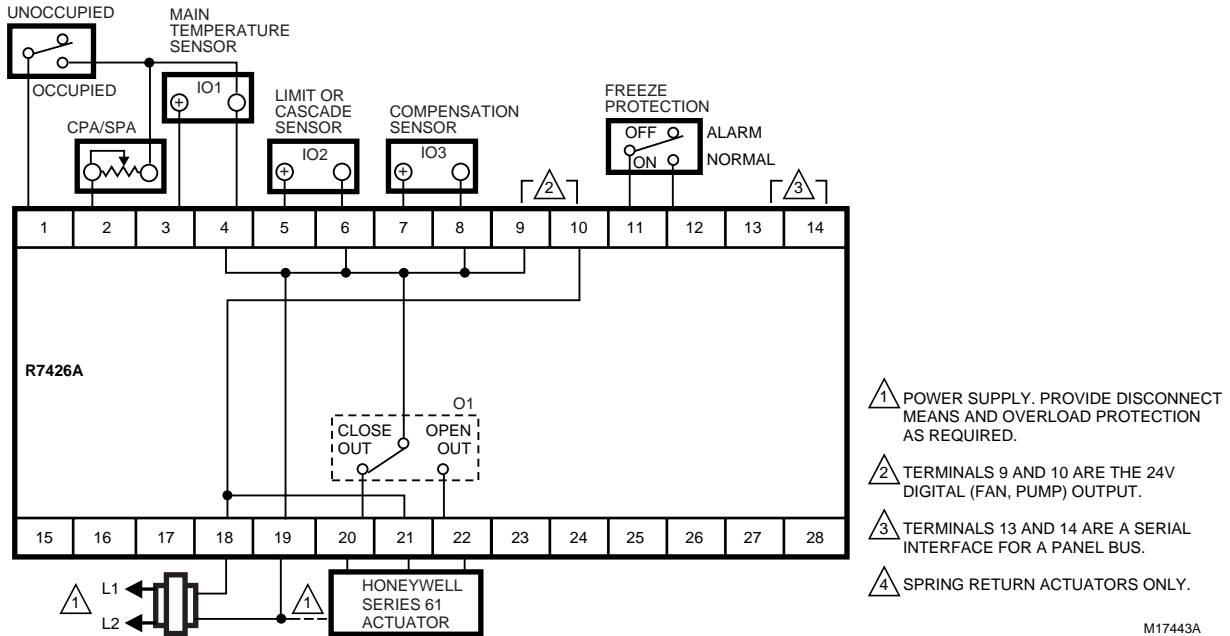

Fig. 2. R7426A typical wiring.
2. Push stripped end of each wire into appropriate terminal (see Fig. 2 to 4).
1. Look at the wiring diagrams (Fig. 2 through 4) to see the inputs and outputs.